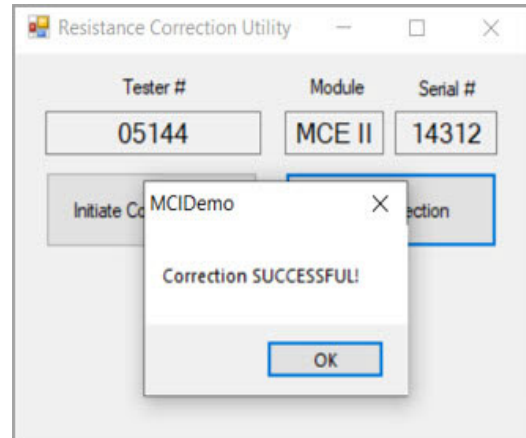

Figure 6
12. After successful application of the calibration correction, the Module and Serial # text boxes will be populated and an MCIDemo window appears indicating the correction was successful. Shown in Figure 6.